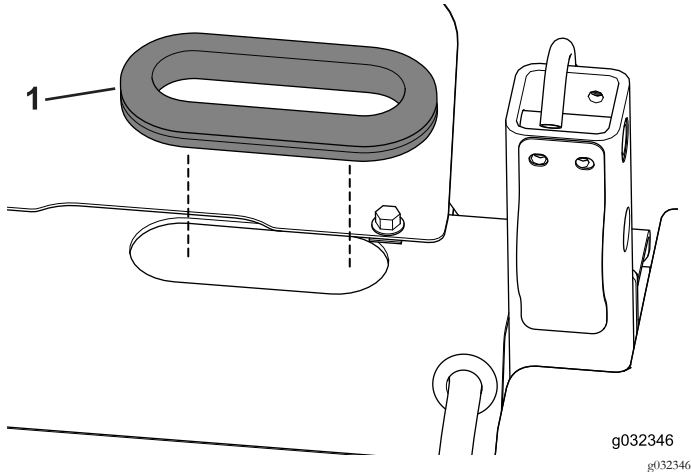

Figure 24
3. Install the grommet into the opening (Figure 24).